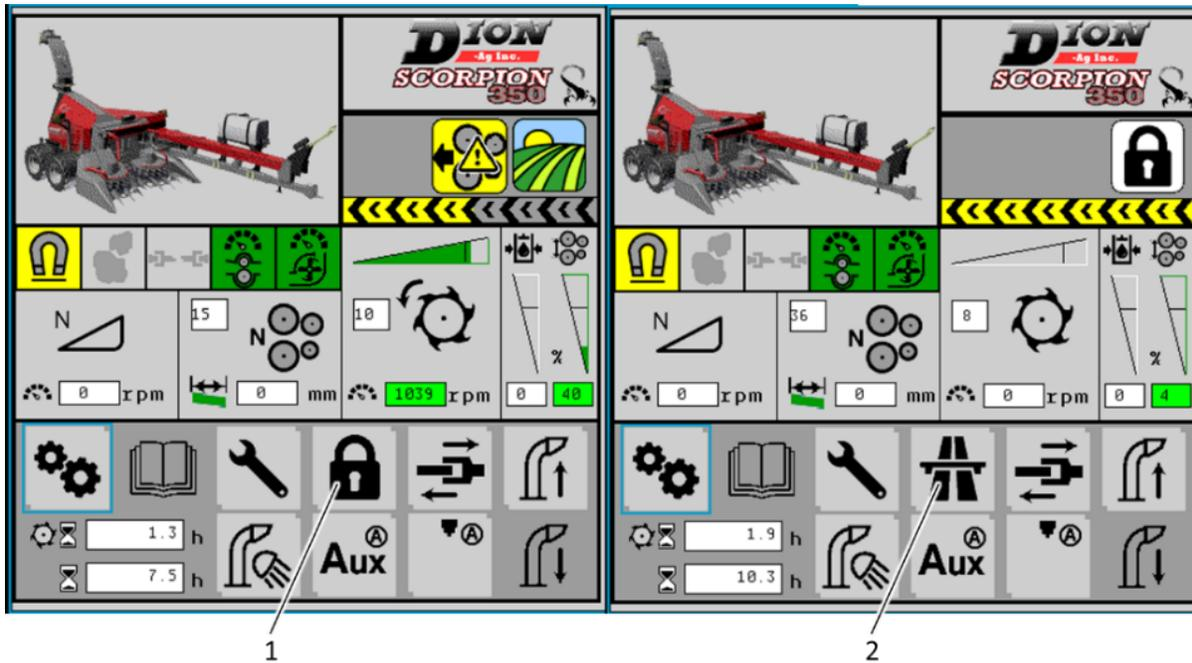

Figure 92 LOCK mode and TRANSPORT mode button location
5. Make sure there is enough room for the spout to rotate to the transport position (fully forward), then press and hold the TRANSPORT mode button (item 2, FIGURE 92). A pop-up will appear for instructions. After a 3 seconds delay, the spout will start rotating to the forward position, and then lower completely. Releasing the transport button at any moment stops the spout movement.